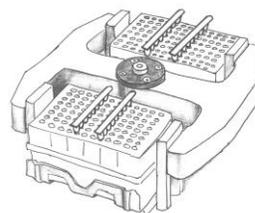

Fig 4
4.1 The 8-Column strips should be positioned in **A6→H6, A7→H7** direction as close to the center as possible, when placed in microplate carriers found in "H" shaped rotors. (Fig 4)